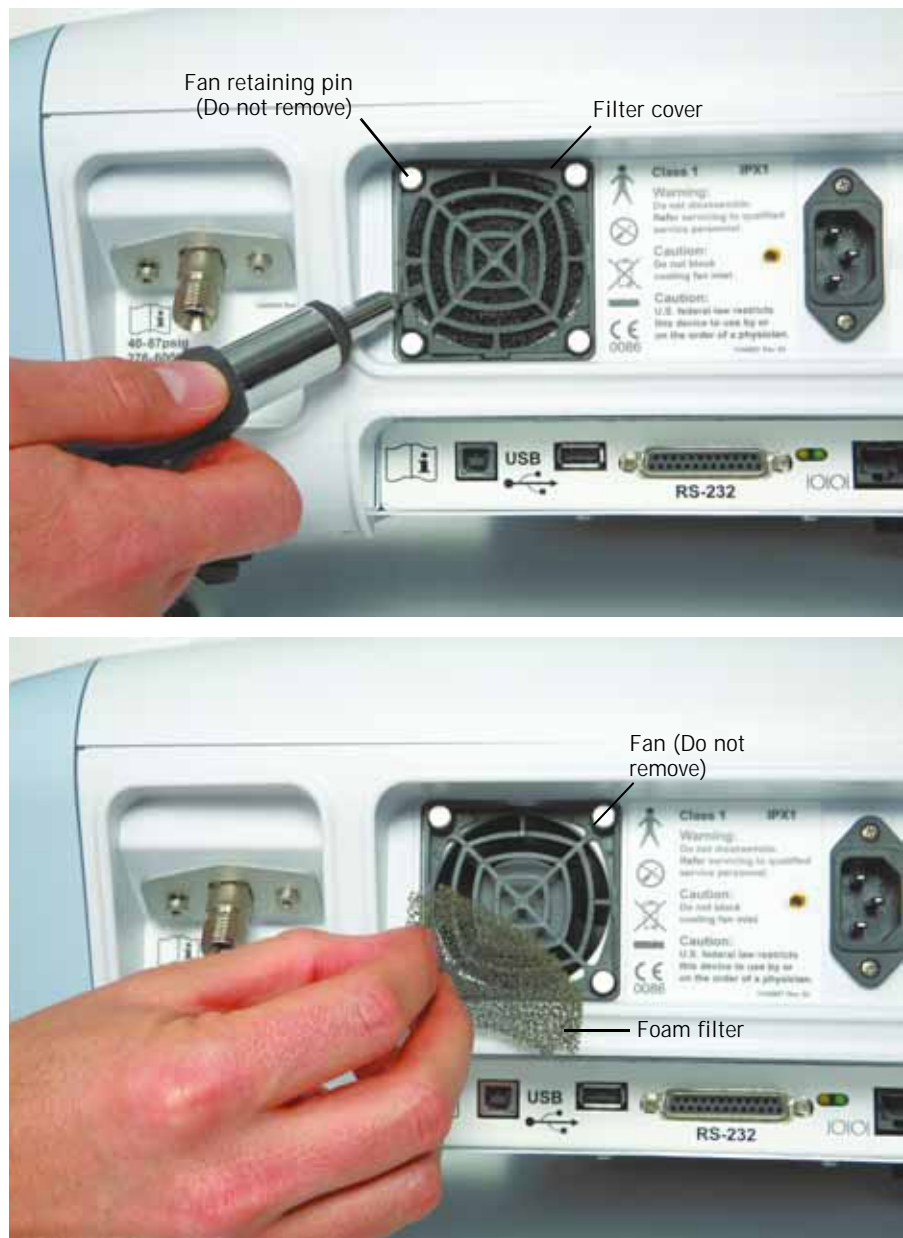

Figure 9-2: Replacing the cooling fan filter
Clean or replace the cooling fan filter as follows, referring to Figure 9-2:
1. Insert a small, flat blade driver tip between the foam filter and the filter retaining cover (Figure 9-2).